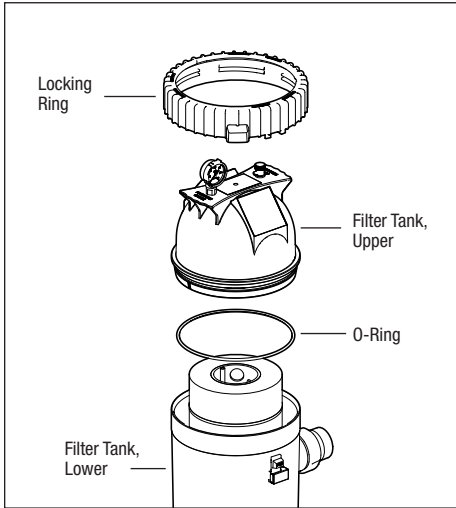

Figure 4. Upper/Lower Tank Assembly
1. Be certain the O-Ring is in position in the upper tank half. Lubricating the O-Ring with a silicone based lubricant will help with installation. See Fig. 4.